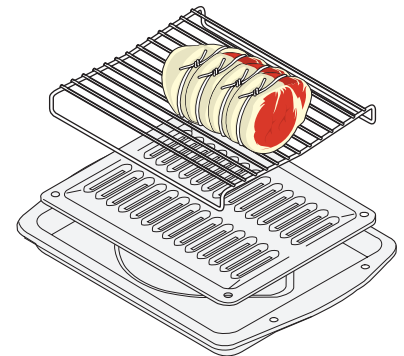

Fig. 3
3. Position food (fat side up) on the roasting rack (See Fig. 3).
Convection Convert **MUST** be used with a **Convection Bake** keypad. When used with a Timed Bake or a Delayed Timed Bake setting, the Convection Convert feature will display a "**CF**" for check food when the bake time is 75% complete (See Fig. 3). At this time the oven control will sound 3 long beeps at regular intervals until baking has finished. When the bake time has completely finished the control will display "**End**" and will sound 3 long beeps every 30 seconds until the  pad is pressed (See Fig. 4).